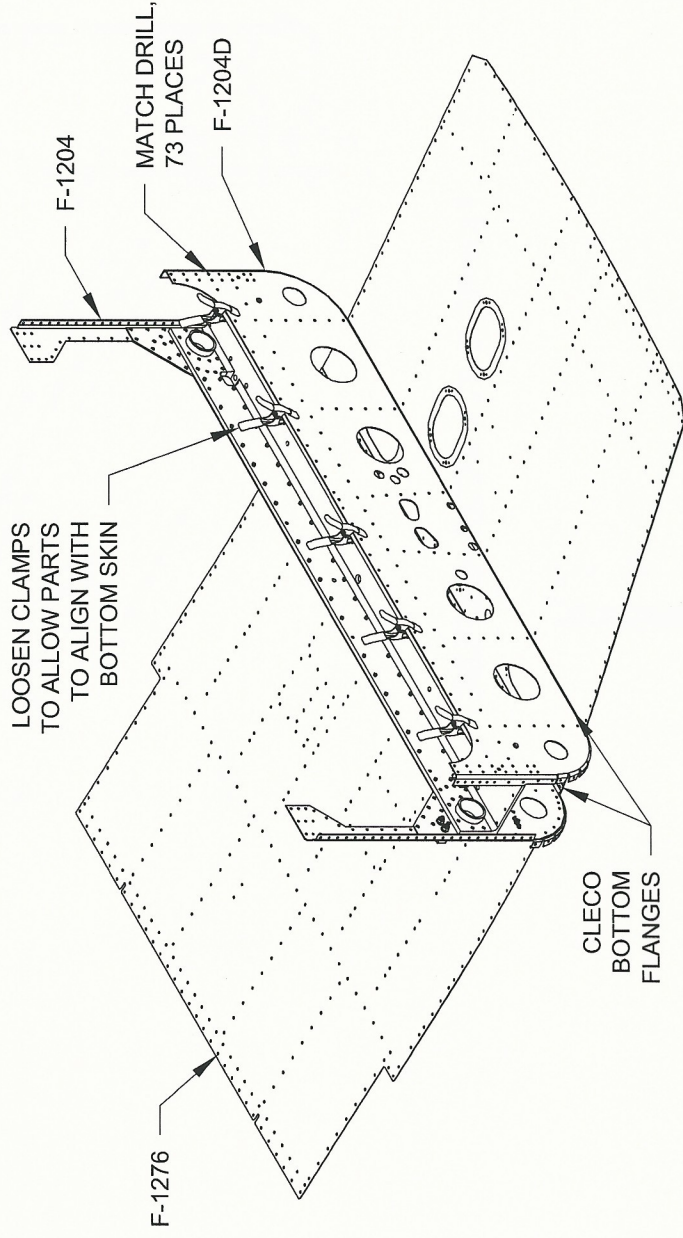

FIGURE 1: ALIGNING CENTER SECTION BULKHEAD TO BOTTOM SKIN
Step 1: Place F-1276 Bottom Skin on the tabletop. Place F-1204 Center Section Assembly over bottom skin and cleco the bottom flanges of the bulkheads as shown in Figure 1.
Step 8: Bend the bottom flanges of the F-1204U-L and F-1204U-R Skin Stiffeners up (to fit the inside radius of the F-1204 Center Section Assembly) as shown in Figure 6. See 20-05 Figure 1 for radius and part location.